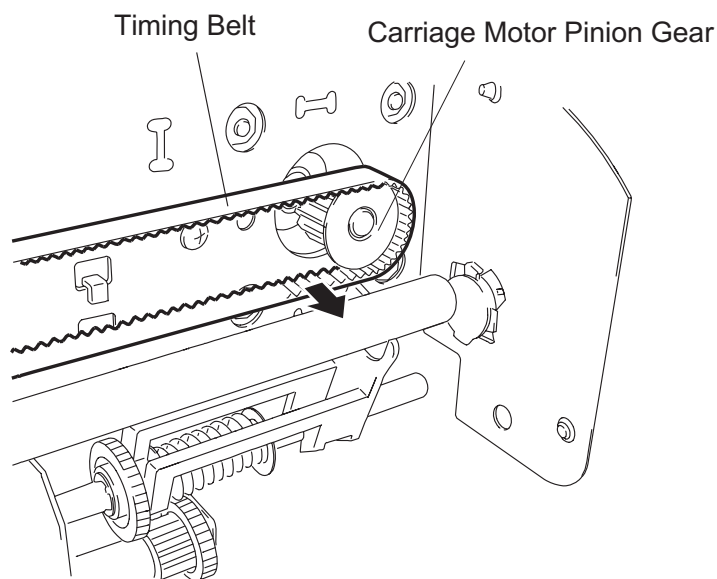

Figure 3-45. Timing Belt Removal
4. Disengage the timing belt from the pinion gear in the CR motor assembly. (See Figure 3-45.)